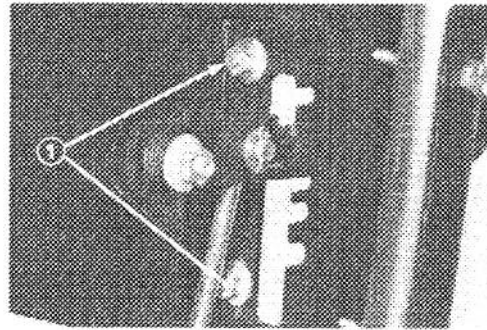

Figure 34
2. Loosen flange nuts securing selector plate to escutcheon plate. This allows selector plate to move freely for adjustment (Fig. 34).